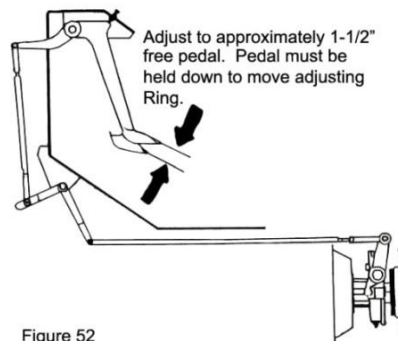

Figure 52
2. There must be 1-1/2" of free pedal at the top of the stroke. If not, the clutch will slip or burn out (Figure 52). This adjustment is made internally in the clutch – **never with the linkage**